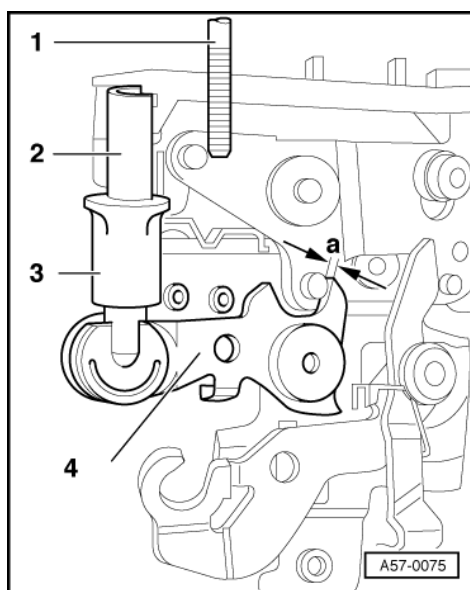

Fig.2 -> Adjusting play for locking lever
- Take care not to strain locking lever -5- at door lock (max. play at locking lever 1 mm =>Fig. 2).